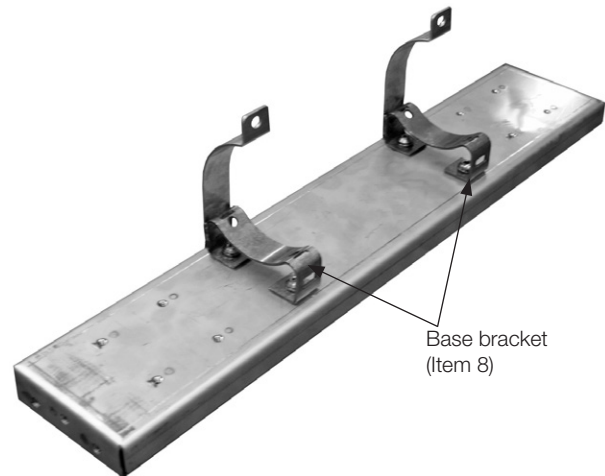

Figure 15. Base bracket placement on standard channel base
- Site the base brackets (Item 8) to the base (Item 1 or 2) for placement. See Figures 15 and 16.